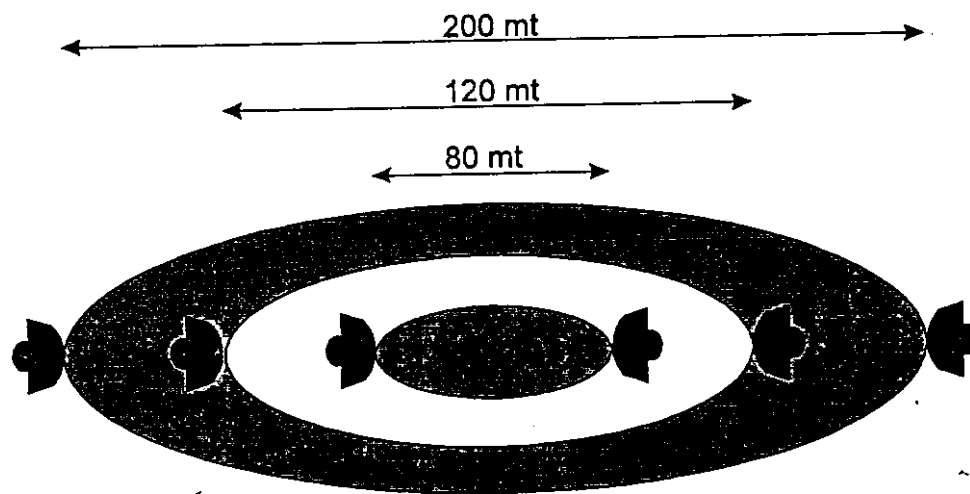

Figure 2 - Variation of the dimension of the sensitive zone on the variation of the distance
- The effective distance between transmitter and receiver, depending on the type of antenna, determines the other two dimensions, due to the fact that the opening angle of the antennae used remains constant to the variation of the reciprocal distance between transmitter and receiver. (FIG. 2)